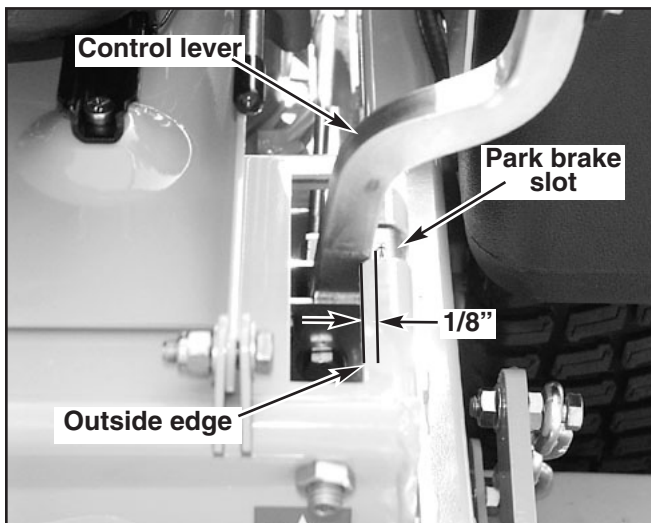

Figure 11-26
5. Move the control lever to where it is just inside (1/8") the park brake slot. Fig. 11-26